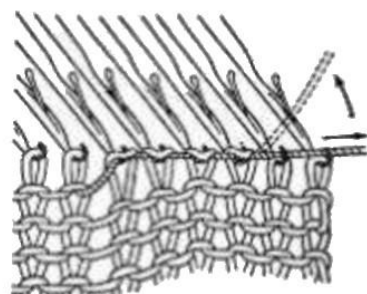

Fig.64
- With the other hand pull the yarn in line with the needle bed until it forms a straight line across the needle hook. (Fig.64)
- Bring all working needles into position (E), and with return cam levers in forward position, "Position 1", knit first row slowly.